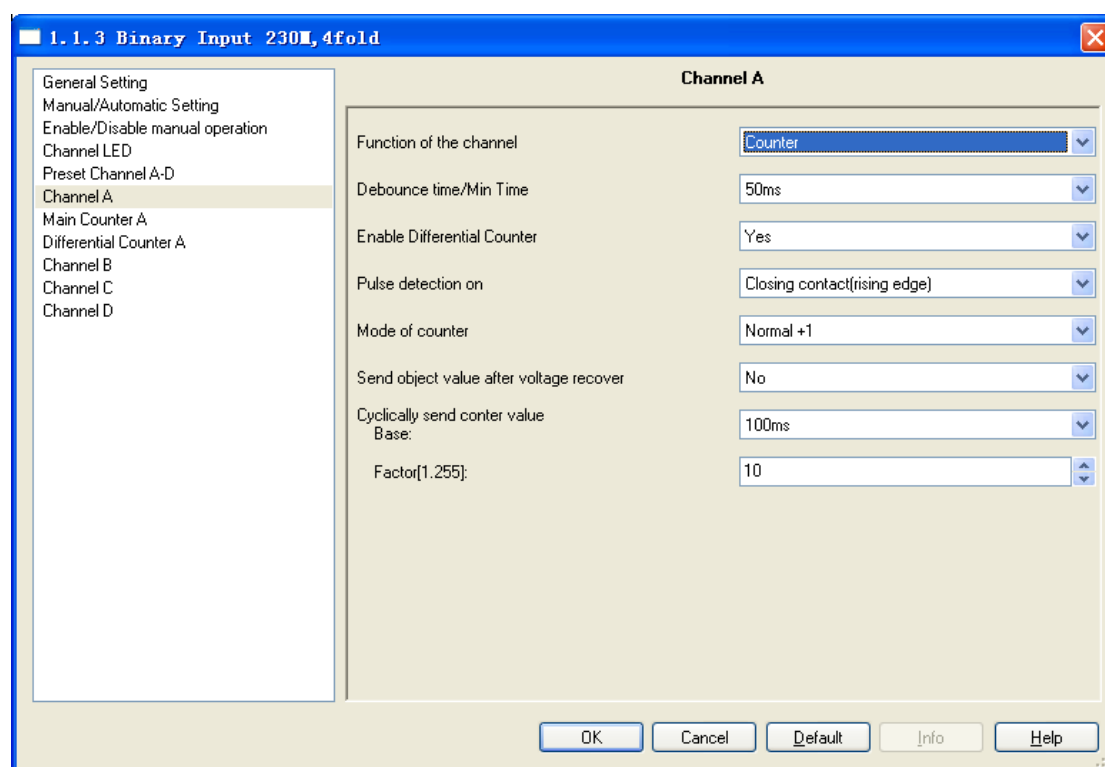

Fig.5.14(1) Parameter window “Counter, X”
Parameter window “Counter, X” can be shown in Fig. 5.14. It is visible when the input is operated with the function “counter”.
The parameters of main counter can be set in fig. 5.14(1) and fig. 5.14(2). The parameters of differential counter can be set in fig. 5.14(1) and fig. 5.14(3). The parameters set as follows:
If this parameter is set to “yes”, the parameter window fig. 5.14(3) is displayed.